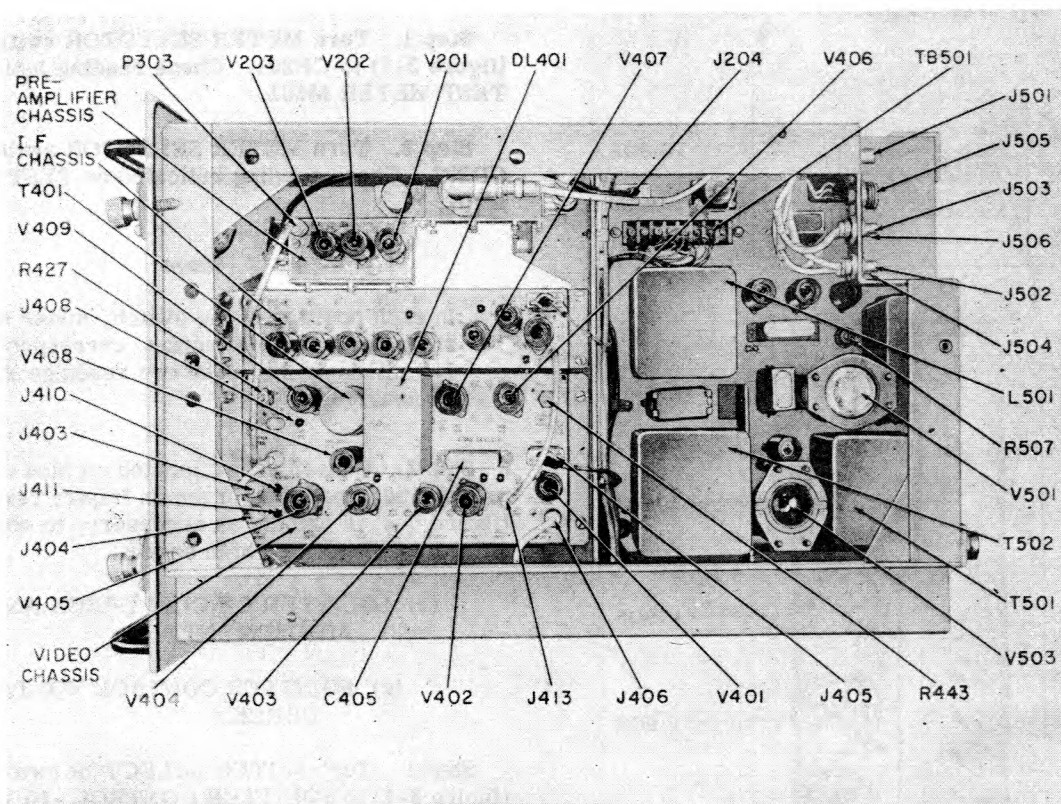

Figure 6-3. Radio Receiver, R824/URN, Right Side View
Step 2. If reading is not correct, adjust potentiometer R507 (figure 6-3) to obtain a reading of exactly 75 scale divisions (+150 volts dc).
Step 7. Carefully adjust potentiometer R427 (figure 6-3) until count is 2700 ± 90 pulses per second. Squitter control voltage as read on TEST METER M501 should be approximately -5 volts.
(3) 40-MICROSECOND BLANKING GATE ADJUSTMENT.
Step 3. Using 10-microsecond markers, adjust potentiometer R443 (figure 6-3) to obtain a pulse width of 40 microseconds.
(1) 1350-CPS IDENTIFICATION TONE OSCILLATOR ADJUSTMENT.